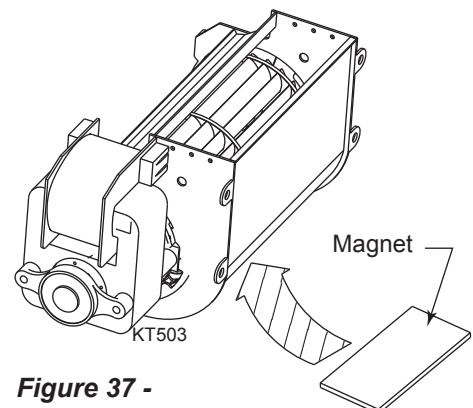

Figure 37 - Magnet Installation
2. Remove glass frame by releasing the two (2) latches (500 Model has three (3) latches) below the firebox opening and lifting glass frame up and away from unit.
8. Two (2) magnetic strips have been supplied to secure each blower to the firebox floor. Place on bottom of each blower before installing. *Figure 37*